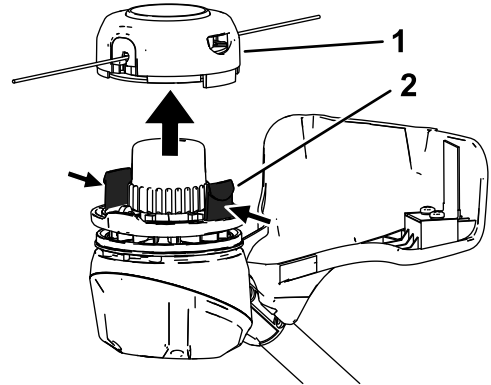

Figure 16
2. Press the tabs simultaneously on the side of the trimmer head and remove cover and spool (Figure 16).